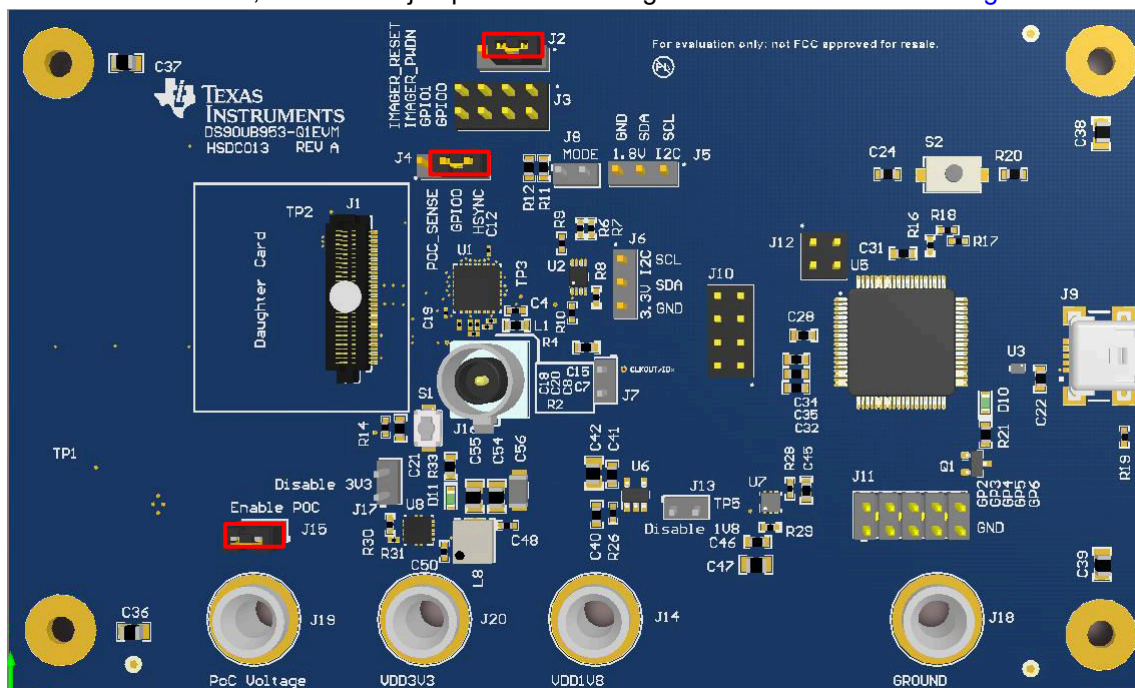

Figure 3-33. DS90UB95x-Q1EVM With Installed Jumpers
11. On the DS90UB953EVM, ensure that jumpers are covering the headers as shown in Figure 3-33.